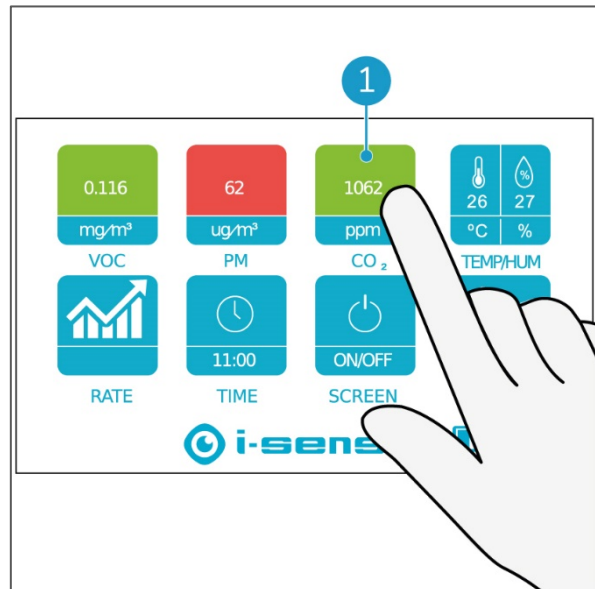

Figure 14
1. Touch the CO2 button (Figure 14, pos 1) with your finger.